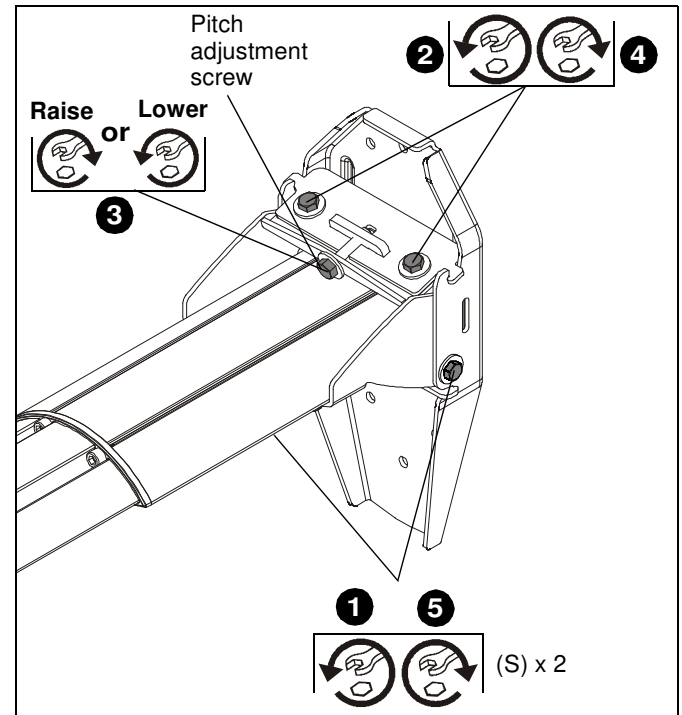

Figure 20
1. Loosen two 5/16 x 1/2" hex head screws (S) (one on each side of wall bracket). (See Figure 20)
2. Loosen two bolts (one on each side of pitch adjustment screw). (See Figure 20)
- Turn **counterclockwise** to lower mounting level. (See Figure 20)
4. Tighten two bolts (one bolt on either side of pitch adjustment screw). (See Figure 20)
5. Tighten two 5/16 x 1/2" hex head screws (S) (one on each side of mounting bracket). (See Figure 20)